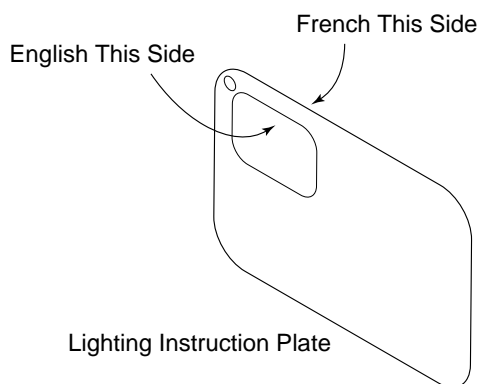

Figure 6 - Applying English and French Conversion Labels over Existing Certification Labels on Lighting Instruction Plate
1. Apply the English and French conversion labels over the top of the existing certification labels (see Figure 6). Existing certification labels are located on the lighting instruction plate inside the gas valve compartment area. With permanent ink, print the previous model number on the label in the space provided (see Figure 7).